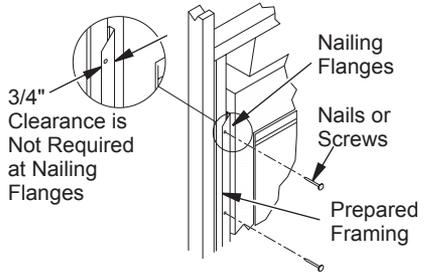

Figure 8 - Nailing Flanges
- Using screws or nails, secure fireplace to the framing through flanges located on sides of the fireplace (see Figure 8).